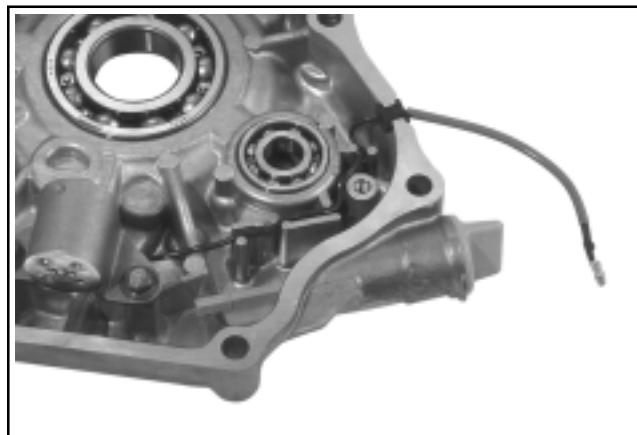

Figure 11-18. Oil Sentry™ Gauge Mounting and Lead Routing Details.
1. Mount the Oil Sentry™ gauge into the closure plate using two M6x1.0 hex. flange screws. Route the wire lead and seat the grommet in the cutout as shown in Figure 11-18.